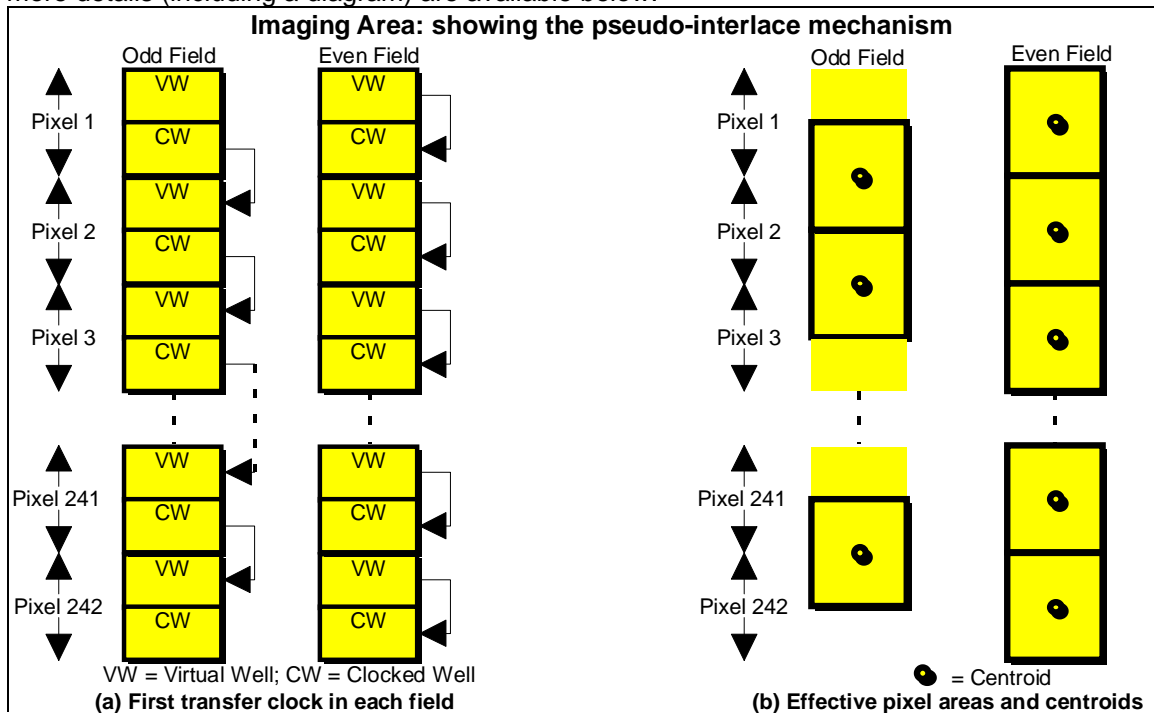

Figure 8-4: Imaging Area, showing Pseudo-interlaced operation
In Figure 8-4, each pixel is shown to have two halves - a Clocked Well (CW) and a Virtual Well (VW). The transfer of charge (that takes place in the vertical blanking interval) uses a slightly different mechanism for the two fields. In the odd field, the first transfer pulse clocks the charge from each CW to the adjacent (lower) VW. In the even field, the first transfer pulse clocks the charge from each VW to the adjacent (lower) CW. As shown in the diagram, this causes the effective pixel area and centroid of each pixel to be shifted by half of the pixel height from the odd field to the even field.